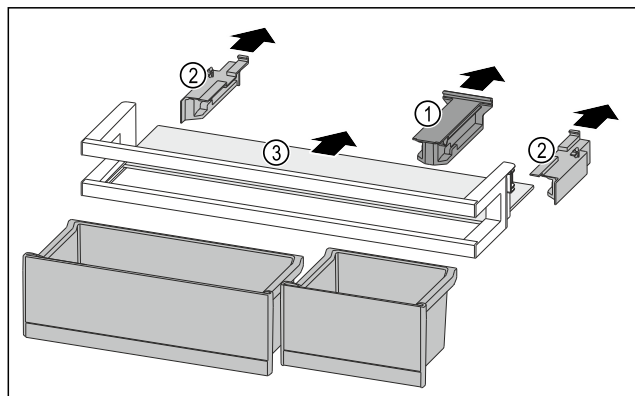

Fig. 239
- ▶ Pull off the holding part Fig. 239 (1).
- ▶ Pull off the side parts Fig. 239 (2).
- ▶ Remove the shelf Fig. 239 (3).